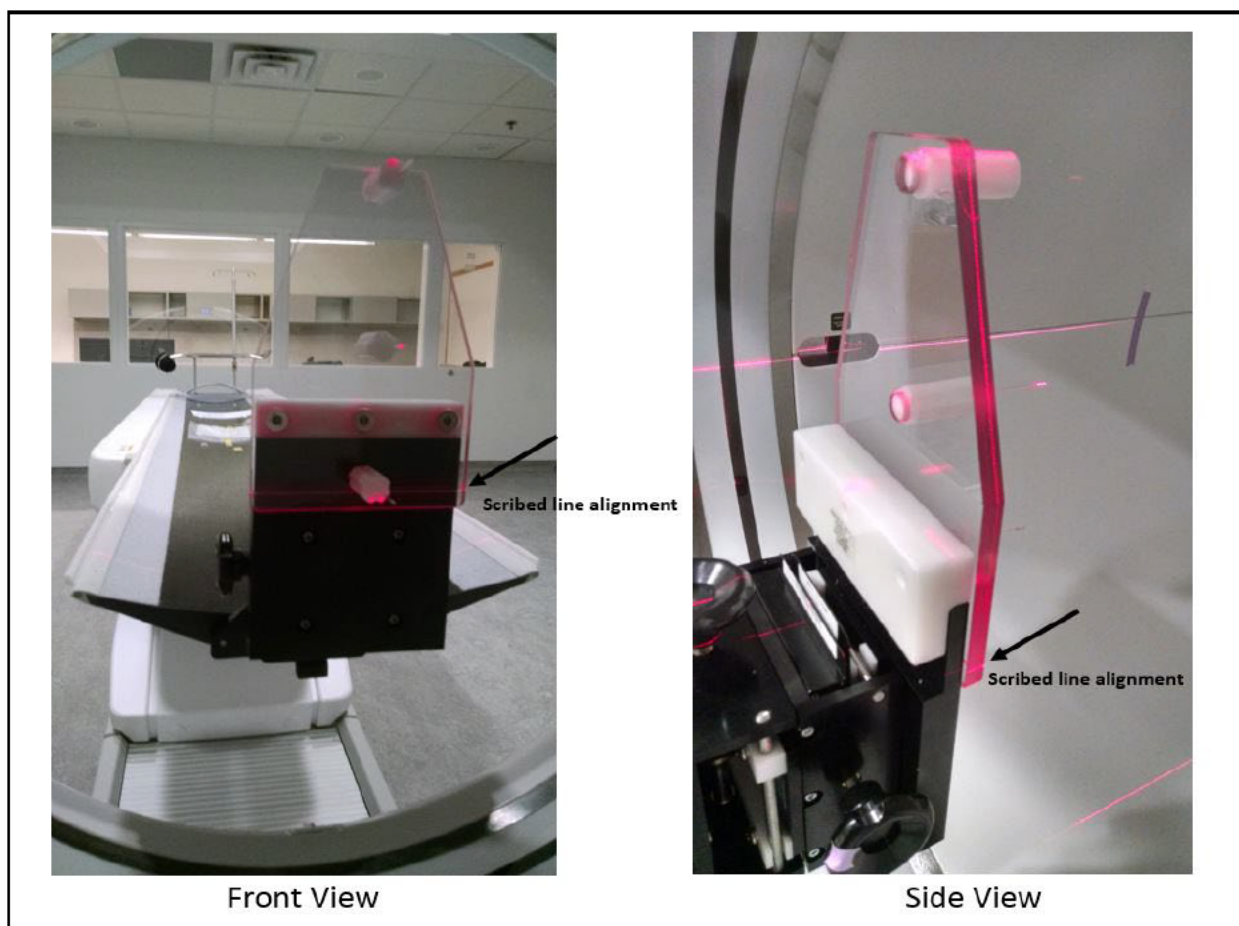

Figure 2.4: Scribed line alignment with the horizontal laser.
- Adjust table height, cradle position and X and Y knobs to align the point sources to the vertical laser. Use the scribed line at the bottom of the holder to align it to the horizontal laser as shown in Figure 2.4. Make sure that the laser and the scribe line are well aligned.